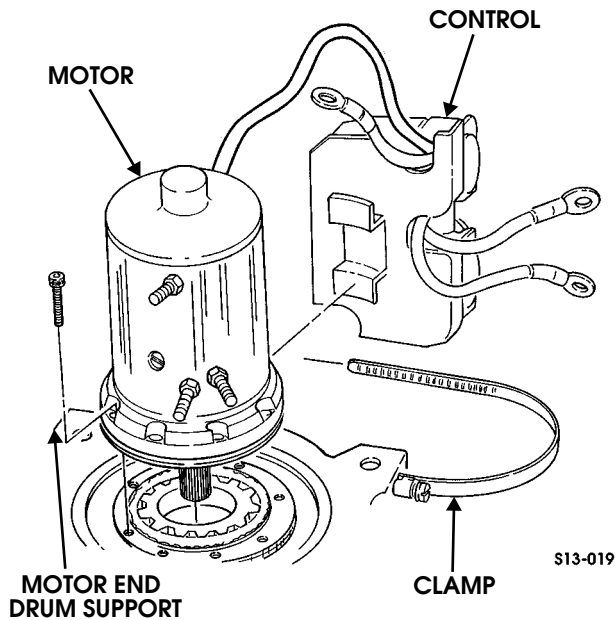

Figure 13-26: Control Unit and Motor
8. Secure motor to motor end drum support with two bolt assemblies. Tighten hex-head bolt to 60-70 lb-in. (7-8 N•m) (Figure 13-26).